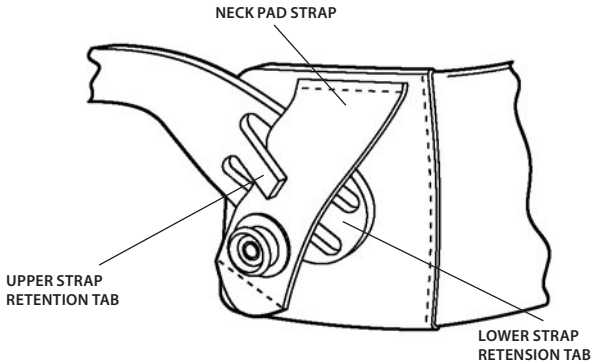

Figure 4-1. Reinstalling the Neck Pad
- (1) Lift the upper headband strap retention tab (see Figure 4-1), allowing space for the neck pad strap to be inserted underneath.
- (2) Slip the neck pad strap all the way under the upper strap retention tab; pull the lower part of the neck pad strap under the lower strap retention tab.
- (3) If necessary, repeat steps 1 and 2 for the other side of the headband and neckband.